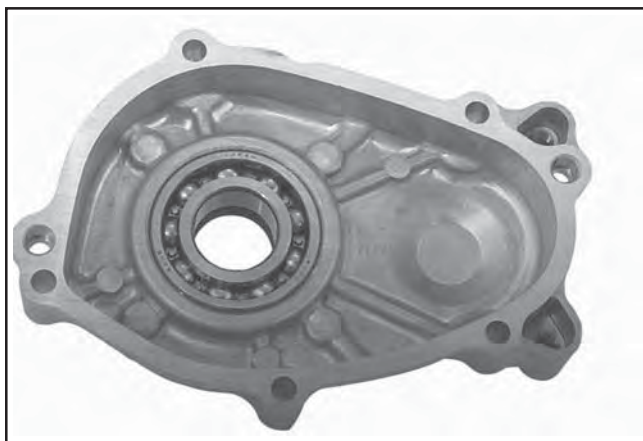

Figure 11-24. CS4, CS6. Installing Bearing.
1. If any bearings were removed, press the new bearing(s) into the housing so the manufacturer's marks are visible. Pre-lube the bearings with engine oil on installation. See Figures 11-24 and 11-25.